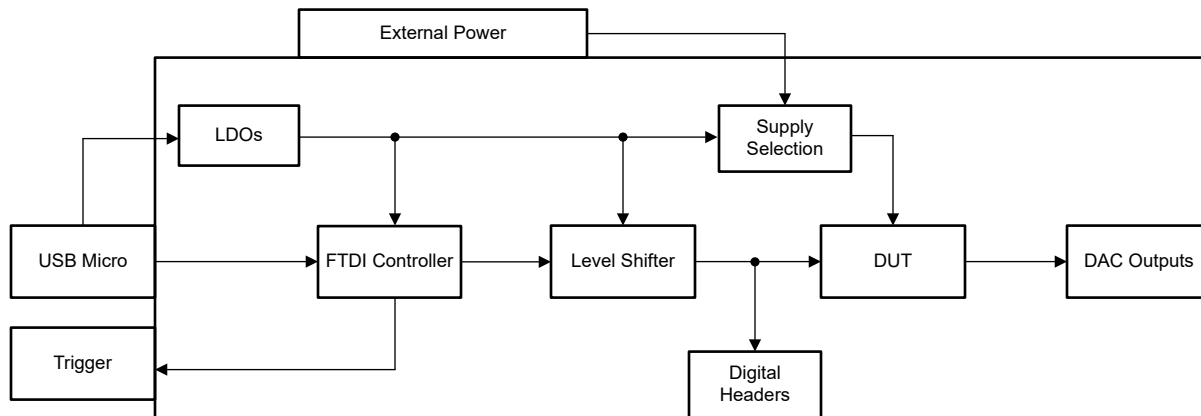

Figure 1-1. Theory of Operation Block Diagram
The DAC8N-DGK-EVM is connected to a personal computer (PC) using the USB cable that is supplied with the EVM. The evaluation board features connectors and test points for all communication lines, DAC outputs, and supplies. Figure 1-1 shows a block diagram of the DAC8N-DGK-EVM.